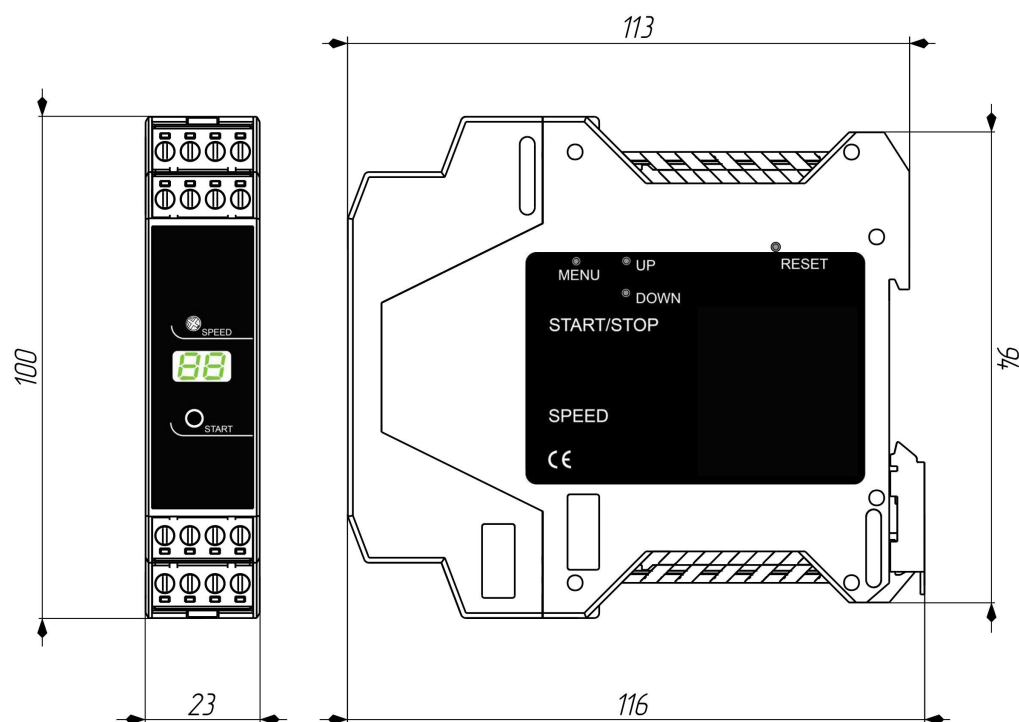

Fig. 2. The frame of the stepmotor driver R202-42DIN
- buttons for adjusting of a control mode MENU, UP, DOWN, start the operation START and reset the driver RESET (fig.2).
Factory reset to default parameters – simultaneous pushing and holding of UP and DOWN buttons longer than 8 sec till a sound signal. To reset the driver R202-42DIN state press the button RESET (fig.2).